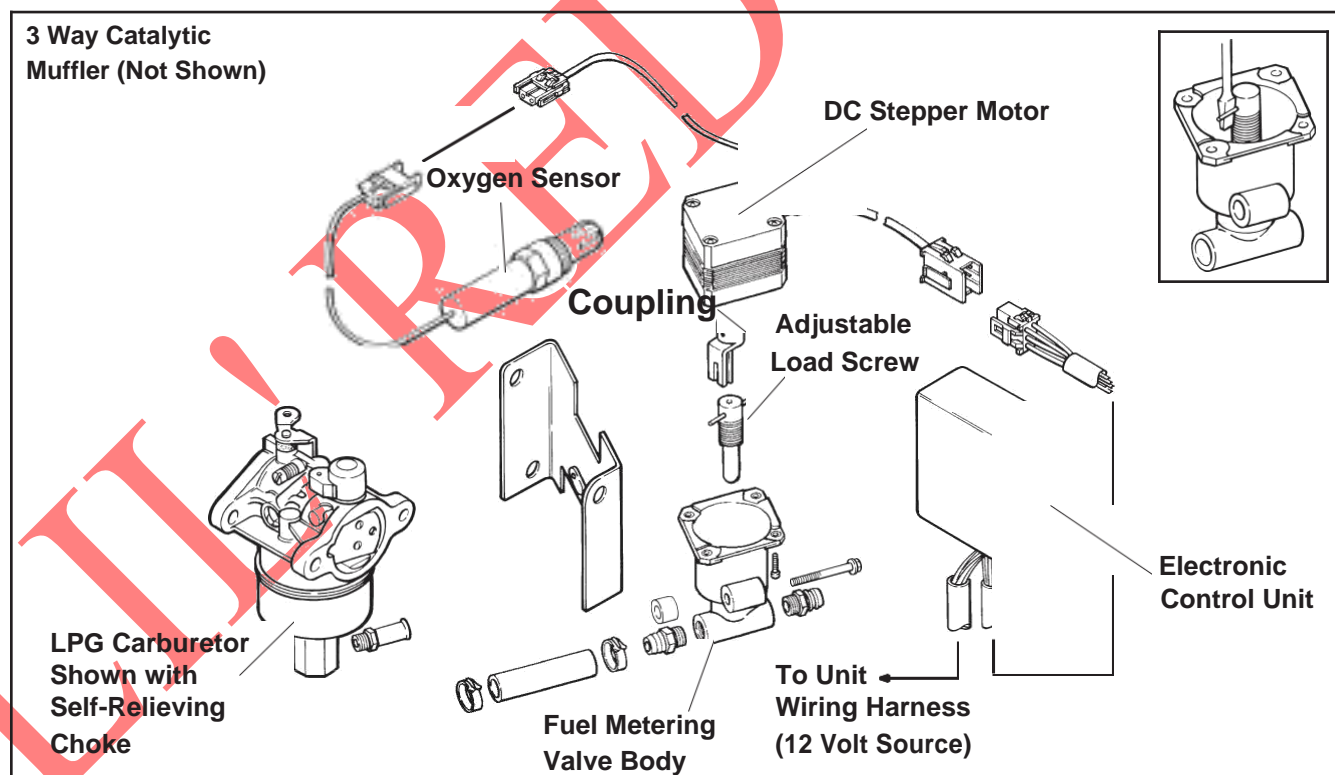

Figure 5-17. Main Components of Kohler Emission Sentry™ System.
3. Remove the stepper motor/fuel metering valve assembly from the engine. Remove the four small socket head screws and separate the fuel metering valve from the stepper motor. Try to turn the load adjusting screw with the blade of a small screwdriver (see inset in Figure 5-17). If the screw turns freely and easily, the oxygen sensor was faulty (step 2b).